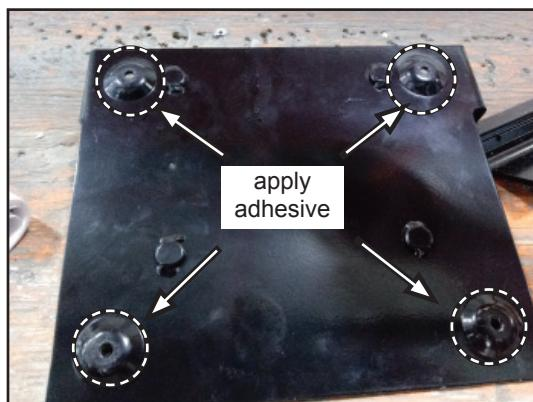

Figure 11
14. With the plate removed, temporarily turn it over so that the studs are facing down. Around each mounting "foot", apply a 1/8" bead of Sikaflex®-221 or 3M™ #540 adhesive. See Figure 11.